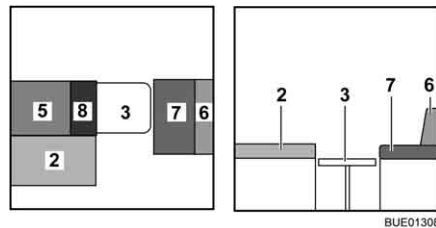

Fig. 142 During conversion
- Place the additional cushion (Fig. 142,8) on the table.